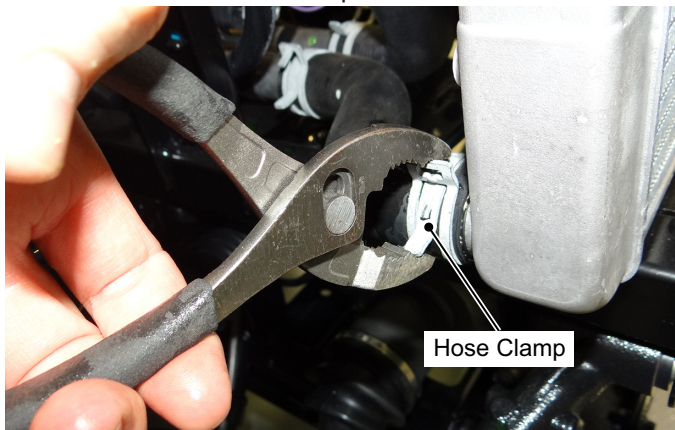

Fig. 4 Remove Lower Radiator Hose
- Use pliers to remove pressure from the lower radiator hose clamp while sliding the clamp away from the hose connection (Ref. Fig. 4). Carefully pull the radiator hose off the lower radiator outlet. Allow the coolant to drain into a drain pan.